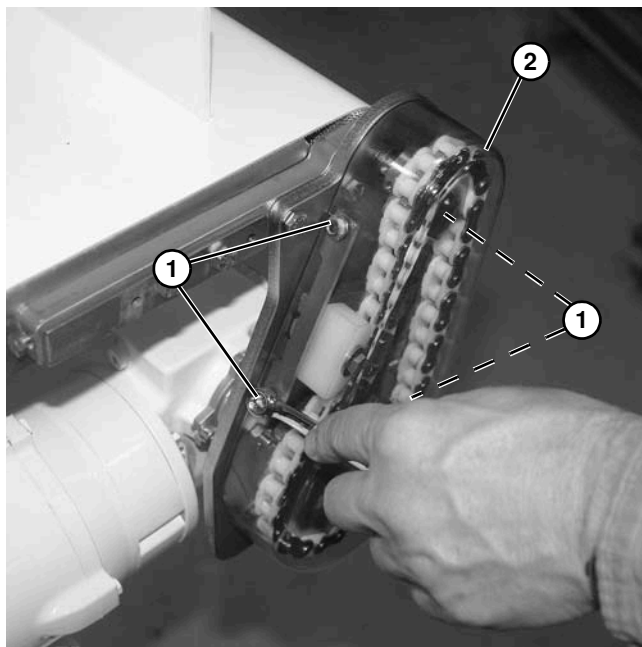

Figure 55
1. Loosen four screws (Figure 55, item 1) securing cover (Figure 55, item 2).